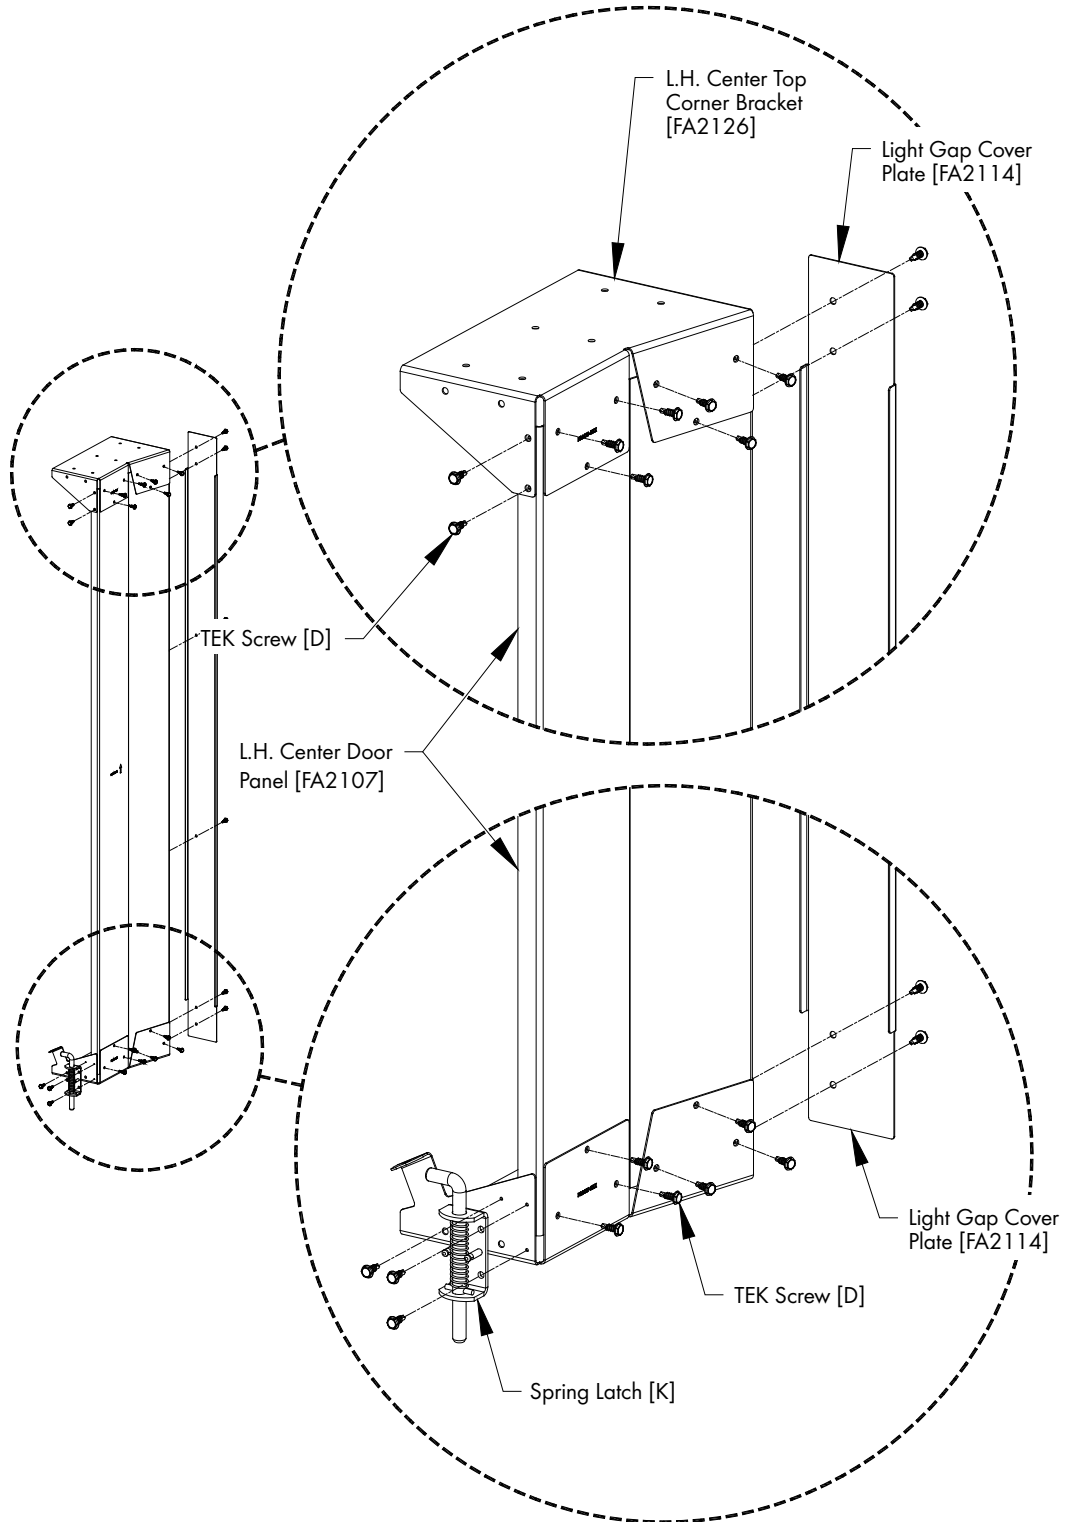

Figure 10
Attach L.H. Center Top Corner Bracket [FA2126] and L.H. Center Bottom Corner Bracket FA2127] to the L.H. Center Panel [FA2107] using (14) TEK Screws [D]. Secure Spring Latch [K] to front of Bottom Corner Bracket using (3) TEK Screws [D] so that the Spring Latch will be on the same side of the of the door as the Leaf Hinge. Also attach the Light Gap Cover Plate [FA2114] on the side opposite the Spring Latch using (6) TEK Screws [D]. See Figure 10.